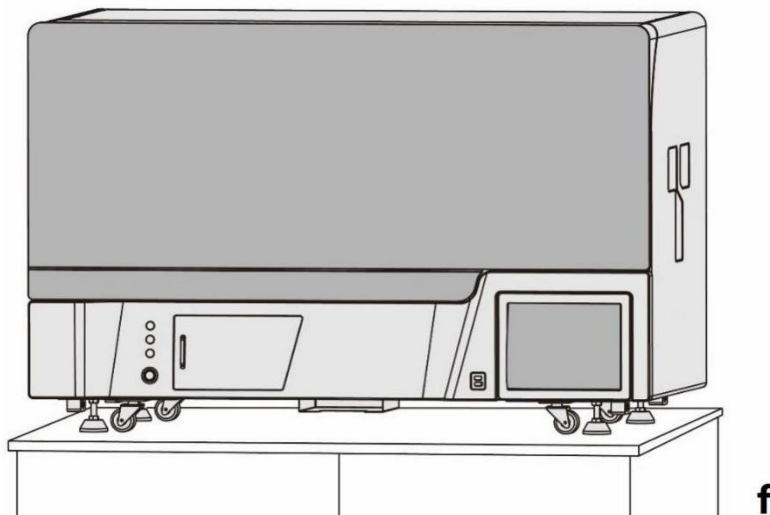

Figure 2-2f. Wooden Case Unpacking Step 6
**6th Step:** Place PANA Workstation on a steady bench, rotate down the supporting feet and let them re-landed. Adjust the height of each supporting foot and ensure the PANA Workstation to stand steadily, as shown in figure 2-2f.